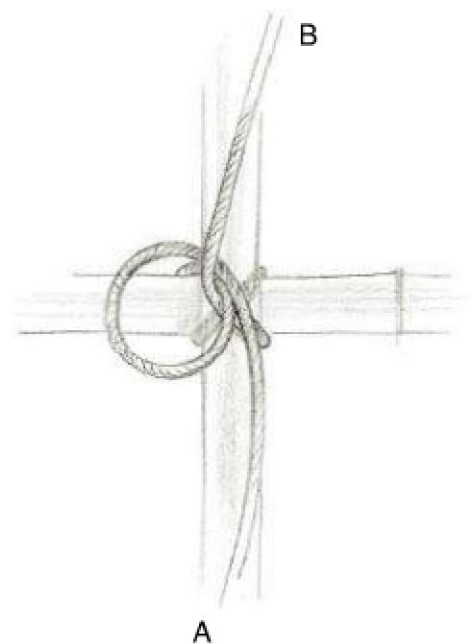

Figure 4
4. Bring A over and under B then up, making a clockwise loop. As it meets the intersection, place A under itself. Figure 4.